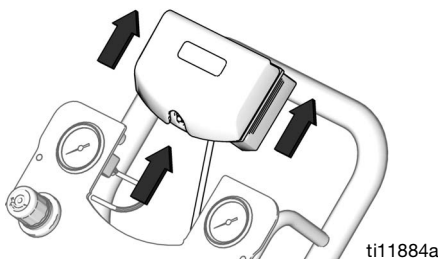

FIG. 10. Remove DataTrak
- Remove DataTrak module from bracket. See FIG. 10. Take module and attached cable to a non-hazardous location.